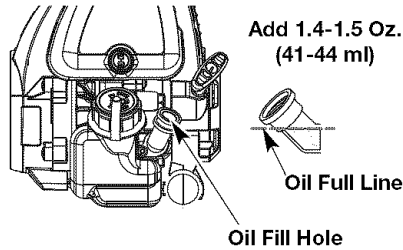
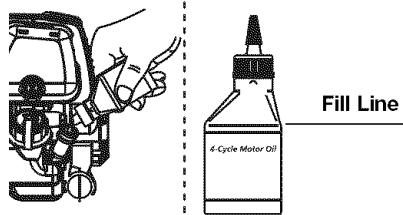

Fig. 19
Fig. 21
5. Check the oil level. Oil should be just to the bottom of the threads of the oil fill hole. (Fig. 19).
6. If the level is low, add a small amount of oil to the oil fill hole and recheck (Fig. 19). Repeat this procedure until the oil level reaches the the bottom of the threads in the oil fill hole.
**NOTE:** Use the bottle and spout saved from initial use to measure the correct amount of oil. The top of the label on the bottle measures approximately 3.04 ounces (90 ml) (Fig. 21). Check the level (Fig. 19). If the level is low, add a small amount of oil and recheck. Do not overfill.